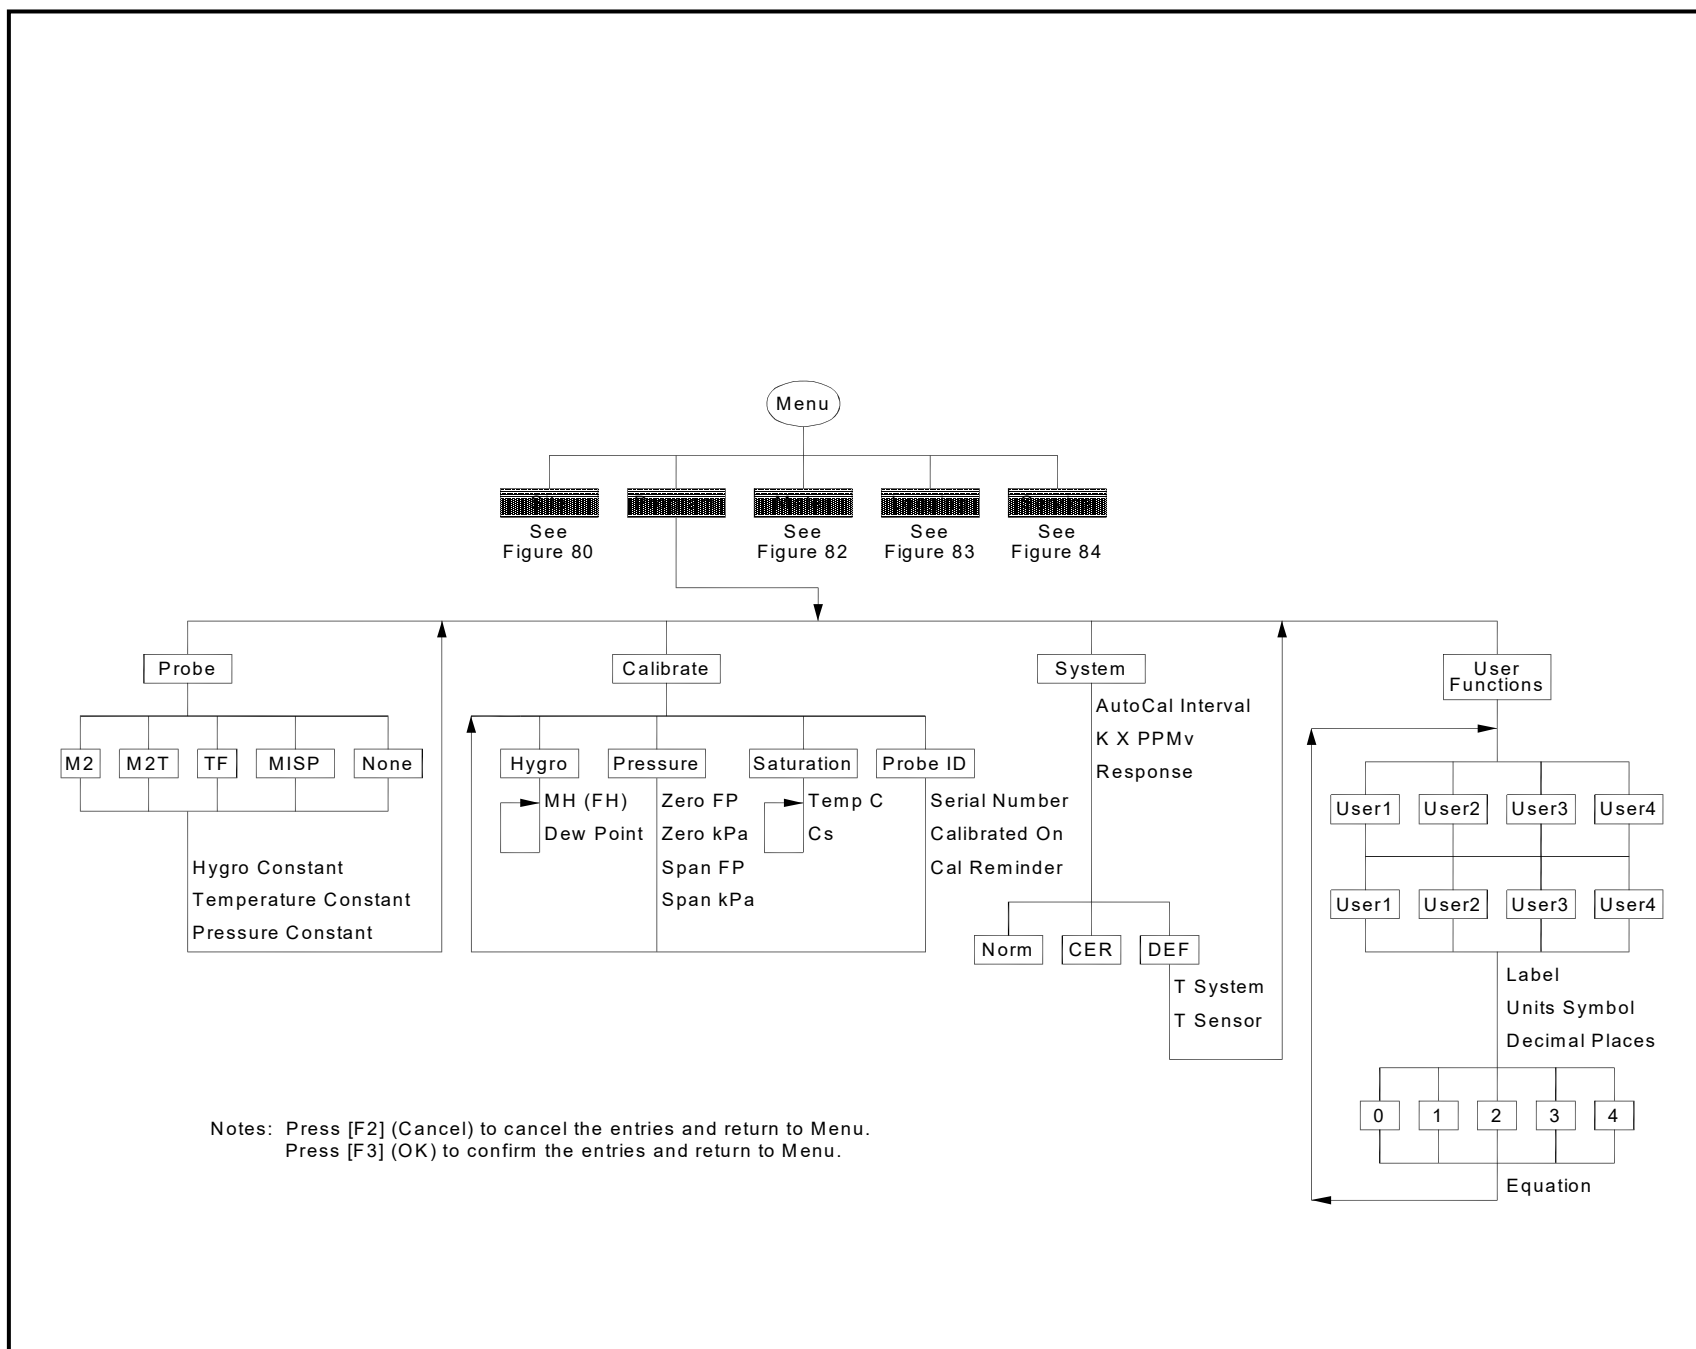

Figure 79: Program Menu
- The Program Menu - *Figure 79*